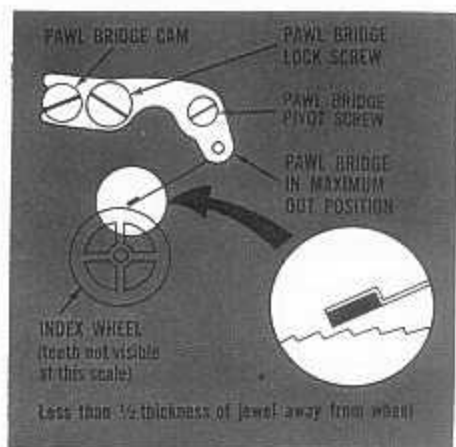

Fig. 14
6. Disengage pawl jewel completely by rotating pawl bridge cam until the cam end of the bridge is at its *maximum* distance away from the index wheel (see Fig. 14). Then, examine the pawl jewel under the microscope; it should not be touching the index wheel, and not more than one-half its thickness away from the wheel. This distance may be adjusted by pressing gently in or out on the pawl finger, as described above in adjusting the index jewel engagement.